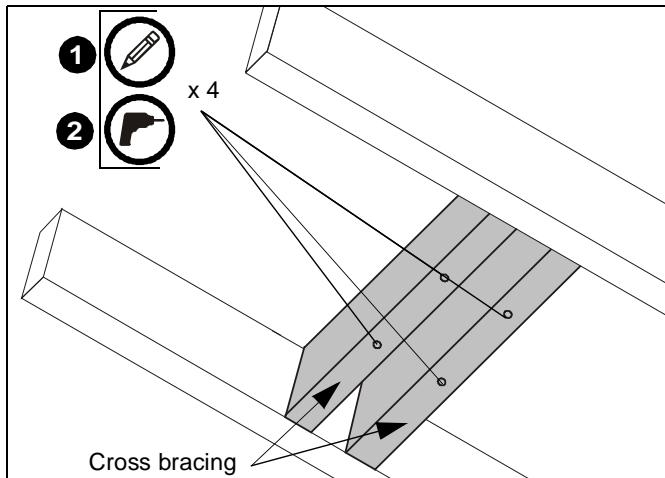

Figure 4
1. Using ceiling plate (A) as a template, mark locations of four pilot holes (See Figure 4). Ensure the marks are in the center of wood joists.
2. Drill 7/32" diameter pilot holes into wood stud cross bracing. (See Figure 4) Ensure pilot holes are straight.